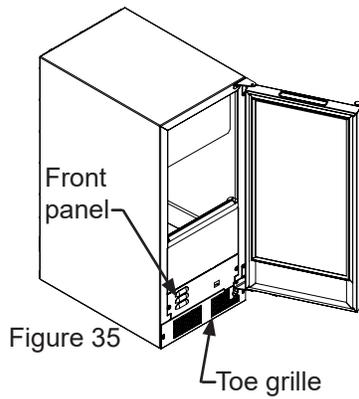

Figure 35
2. Remove the front panel and the toe grille from the front of the ice machine. See Figures 35 and 35a.